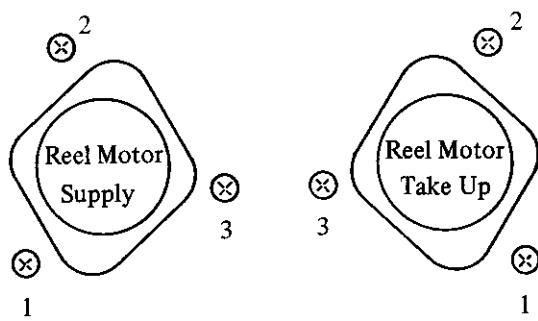

Fig. 4.3
- 5) When tightening the screws for mounting the bracket, the screws must be tightened in the order as shown in Fig. 4.3.